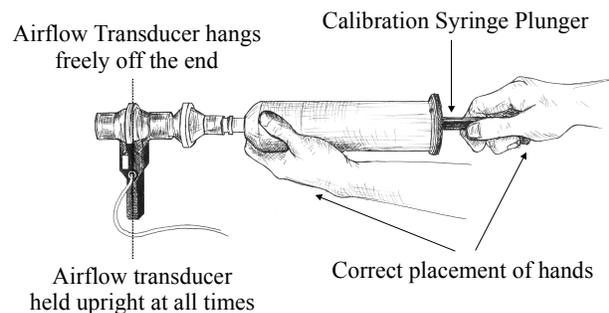

Fig. 12.5
1. Pull the Calibration Syringe Plunger all the way out and hold the Calibration Syringe/Filter Assembly upright (Fig. 12.5).
Hold the syringe assembly as shown in Fig. 12.5 above.